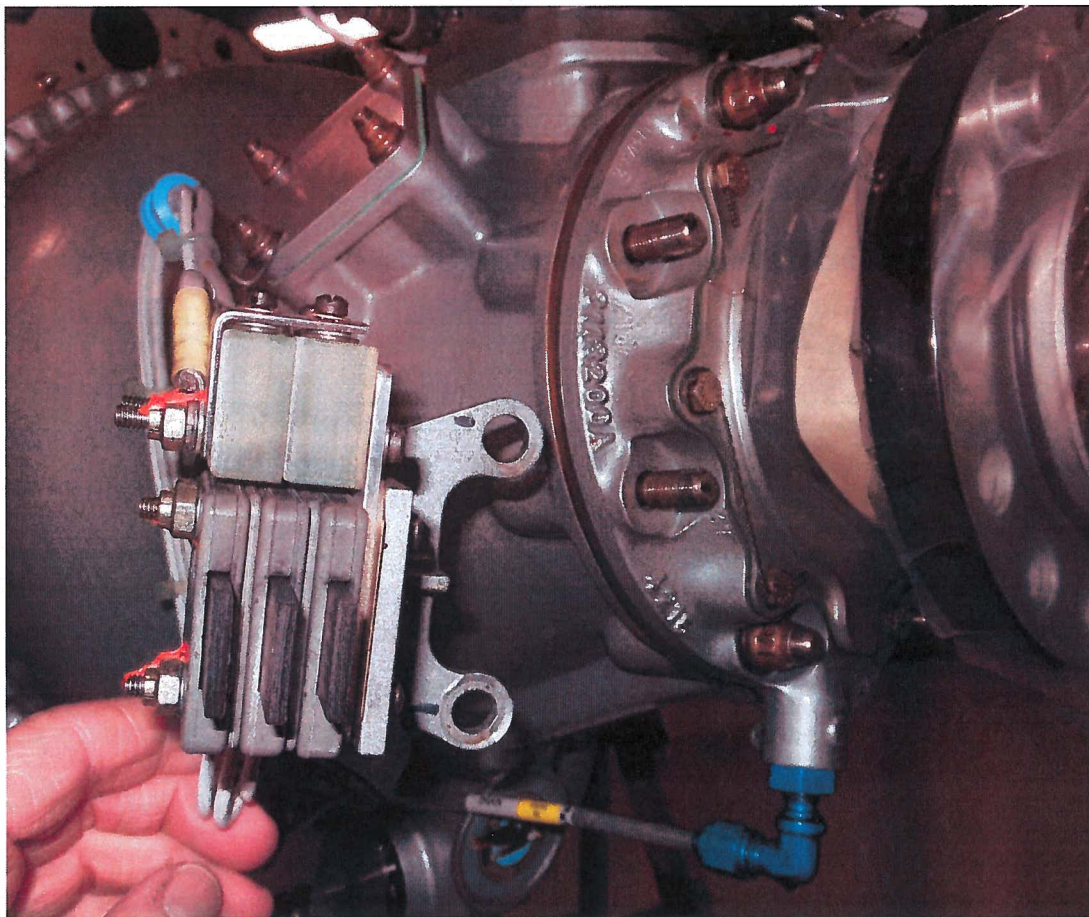

Figure 1
- a) Remove existing de-ice brush block bracket and attached parts from the engine gearbox as shown in **Figure 1**. Note the position of cable ties that secure the wires near the brush block and MOV.